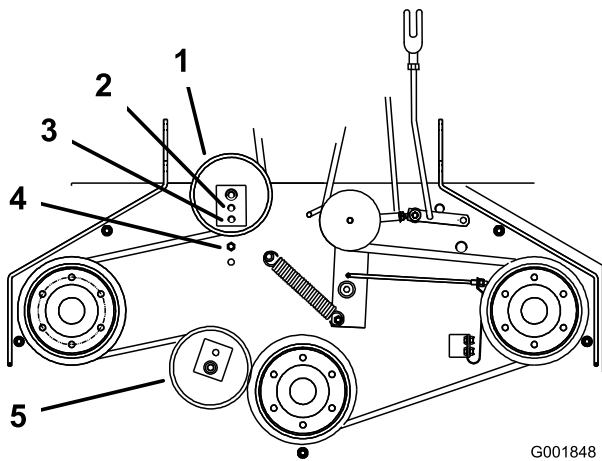

Figure 40
6. If there is no adjustment left in the turnbuckle and the belt is still loose, the rear idler pulley needs to be positioned to the middle or front hole (Figure 40). Use the hole that will give the correct adjustment.
7. When the idler pulley is moved the belt guide must be moved. Move the belt guide to the front position (Figure 40).